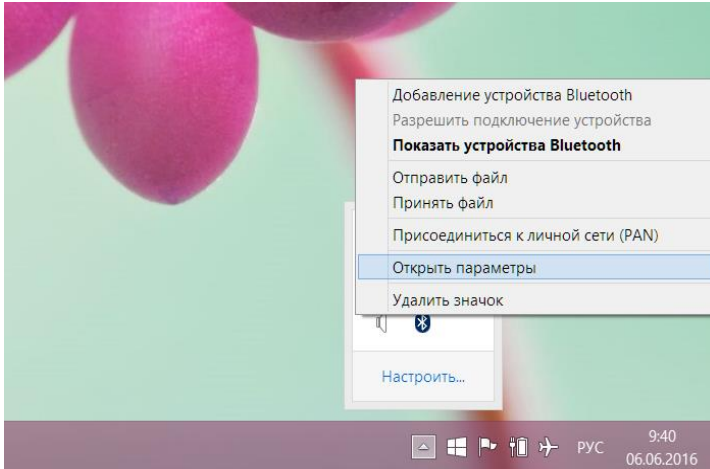

Figure 4: Bluetooth Menu in Windows 7-10
- in the appeared context menu select item "Open parameters" (see Figure 4);